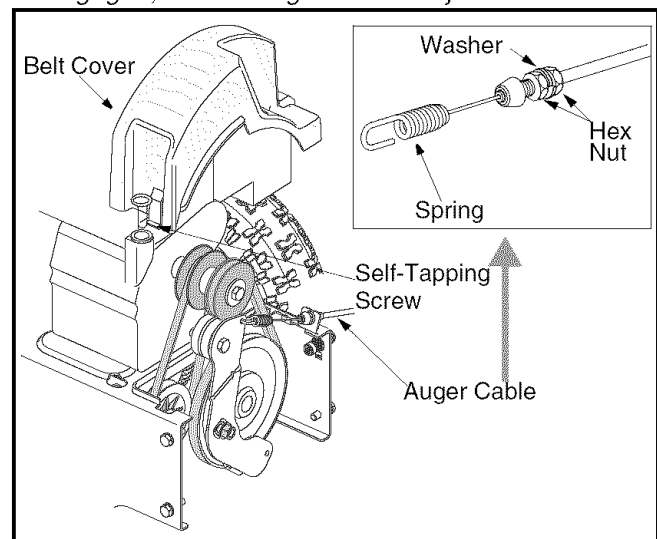

Figure 14
2. Tighten two hex nuts on the auger cable towards the spring to increase the tension on the auger belt. See Figure 14 .